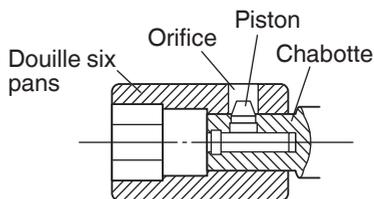

Fig. 3
### (1) WR22SE: Type piston (Fig. 3)